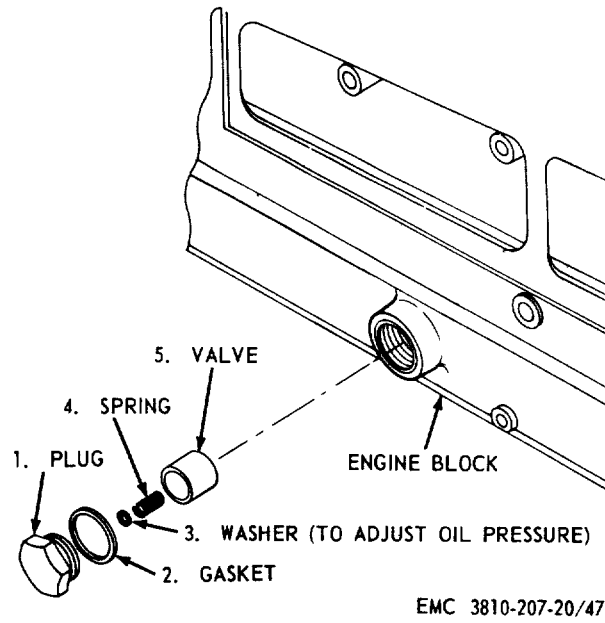

Figure 47. Pressure relief valve, exploded view.
a. Removal. Remove the pressure relief valve as illustrated on figure 47.
- (1) Clean all parts with an approved cleaning solvent.
- (2) Inspect all parts for excessive wear, breaks, and other damage. Replace all defective parts.
d. Installation. Install the pressure relief valve as illustrated on figure 47.